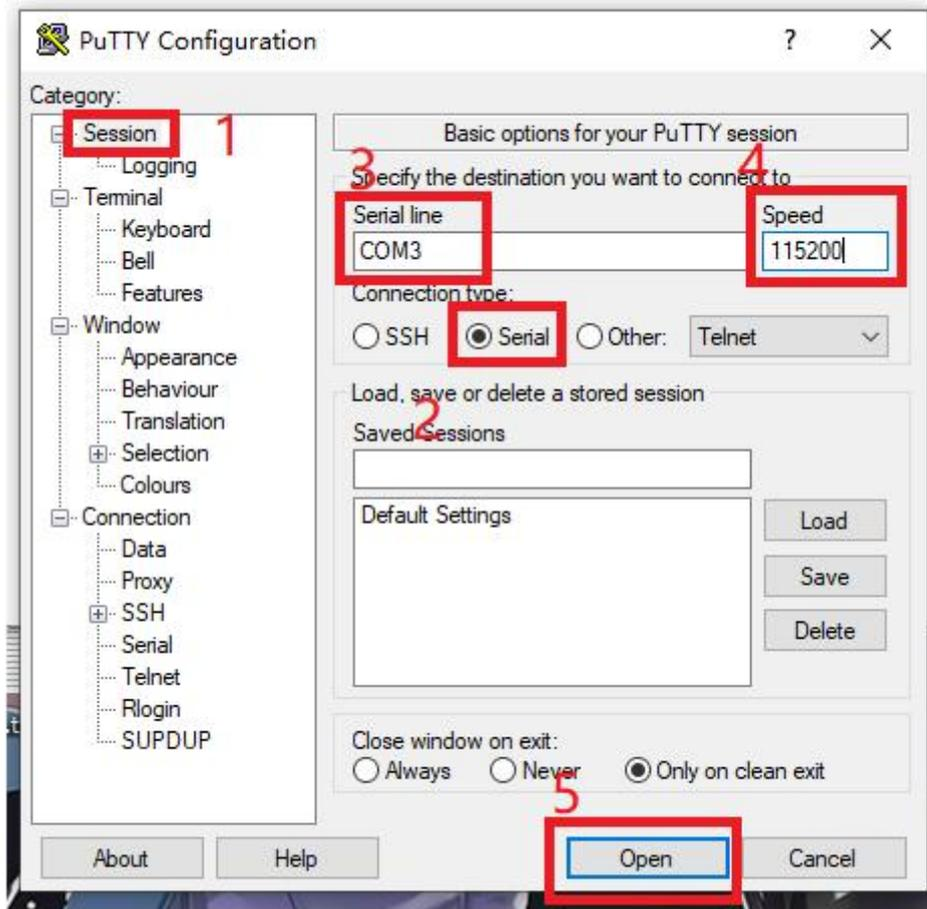

Figure 95
- Open putty, select **Session**, select **serial**, input speed with value 115200, set the **serial line** to the serial line that shown in step 3 Figure 95, finally, click **open**.